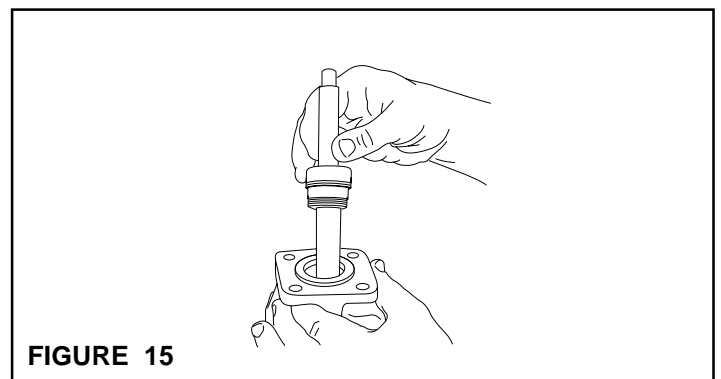

FIGURE 15
4. Place the Shaft Assembly into the Motor Body Bearing Bore with the threaded end facing up (See Figure 15).